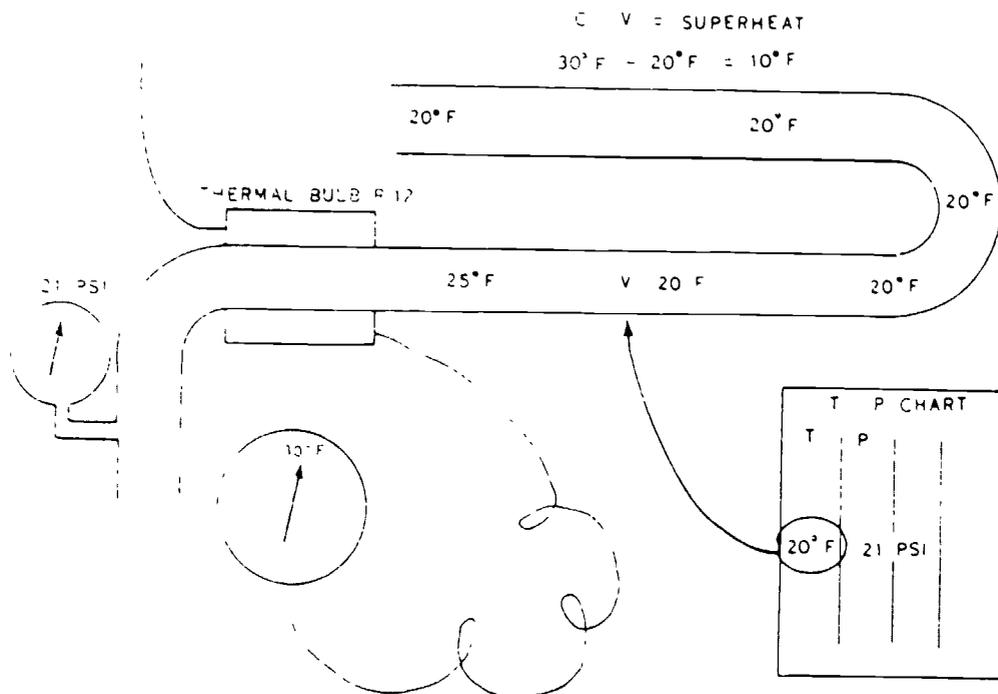

Figure 15. Finding Superheat
**SUPERHEAT** To find superheat, attach the bulb of a superheat thermometer at point C 30° F (see Figure 15). Convert suction pressure to temperature: 21 PSI = 20° F. This is the temperature at point V. Subtract the temperature at point V from the temperature at point C 30° F - 20° F = 10° F superheat.
**CHECKING SUPERHEAT.** There are three methods used to check superheat. The first is the ice bath test. This method is fairly accurate, providing the manufacturer's recommendations are followed. The second method is using two superheat thermometers. One is attached at the inlet of the evaporator, and the other, at the bulb of the thermostatic expansion valve. Subtract the temperature at the inlet of the evaporator from the temperature at the bulb. The third and most accurate method is one superheat thermometer at the bulb of the expansion valve and evaporator pressure (see Figure 15). Convert evaporator pressure to temperature, and subtract from temperature at bulb. The difference between these two is the amount of superheat.
Superheat is checked in the same way on both valves (see Figure 15).